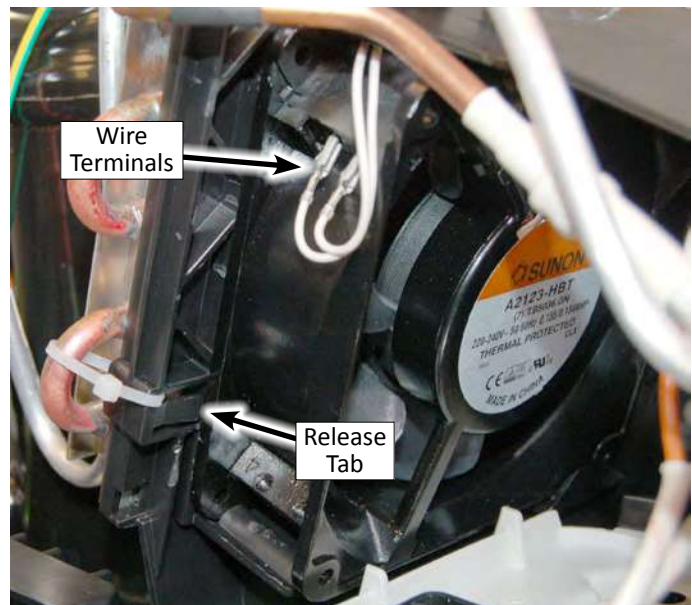

Figure 7
10. If exists, cut the wire tie securing the fan to the post condenser (see Figure 7).
12. Depress the release tab and slide the fan assembly out of the dryer (see Figure 7).